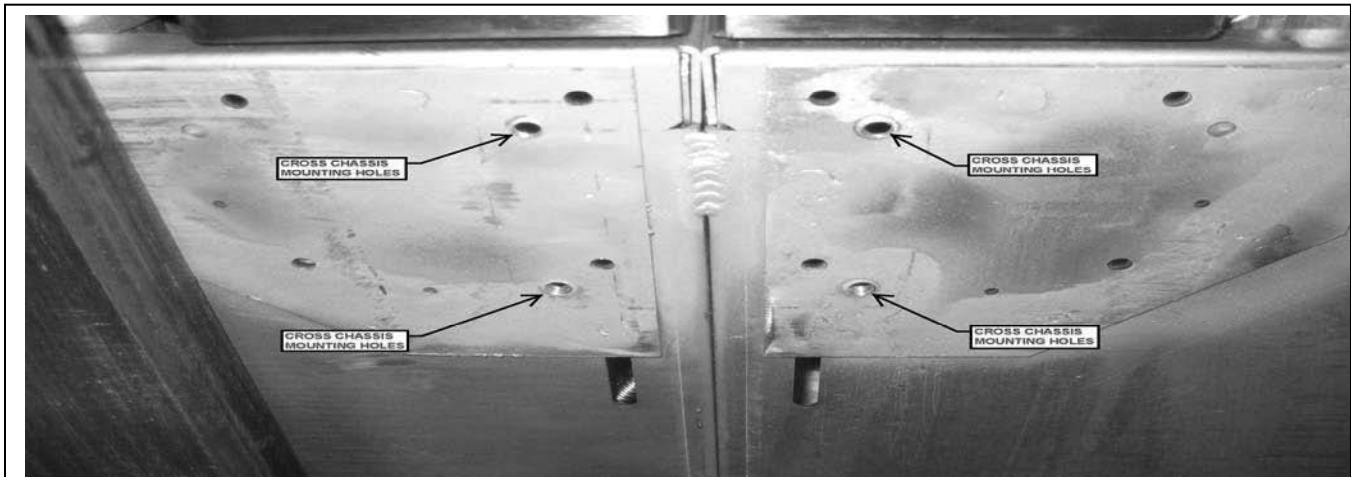

Figure 1 - Cross Chassis Leg/Caster Mounting
2. Align holes in leg/caster mounting plate with pre-drilled holes in bottom of range located in each of the four corners. Two additional legs/casters must be installed on the C48, C60, and C72. The additional legs/casters should be installed utilizing the pre-drilled holes shown in Figure 1.